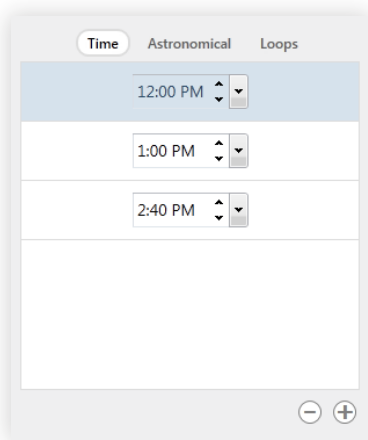

fig. 92
- **Time-Based Triggers:** See fig. 92. Each of these is a specific time at which your show will trigger light changes. Use the + button to add times; remove times by highlighting one and clicking -.